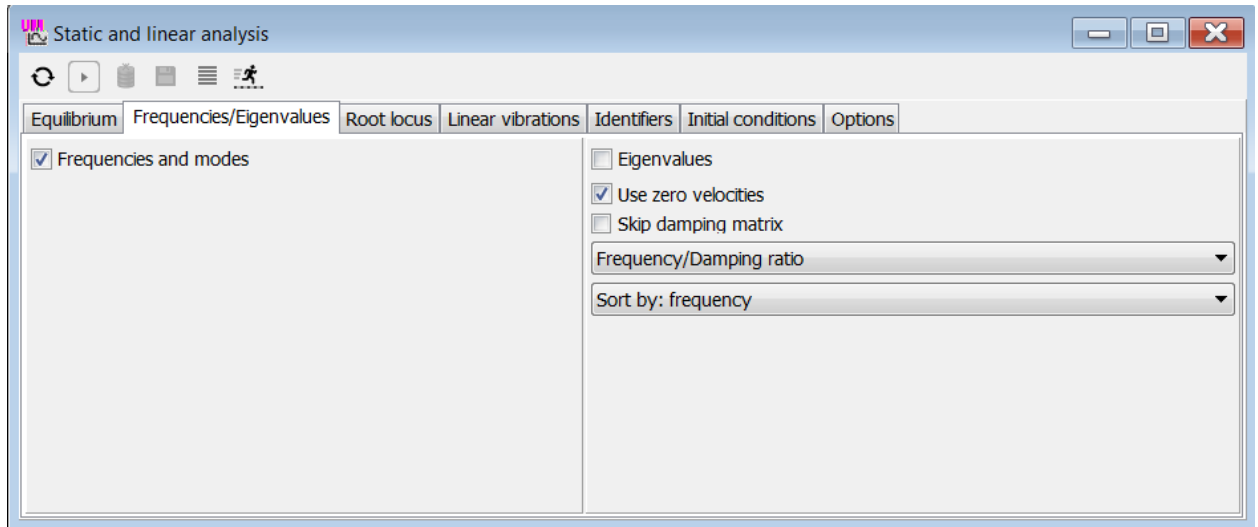

Figure 1.10. Window of static and linear analysis
2. From the menu **Analysis** select the **Static and linear analysis...** command. Window of analysis appears, Figure 1.10.